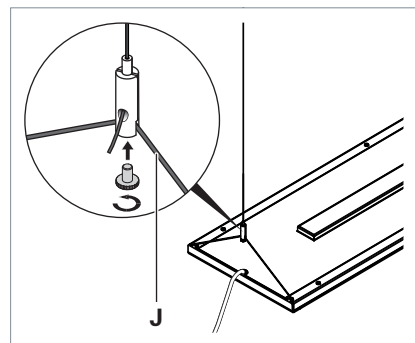

Fig. 9: Fastening the single or start luminaire to the wire rope holder.
- ▶ Insert the wire rope **J** of the luminaire into the wire rope holder, see Fig. 9.